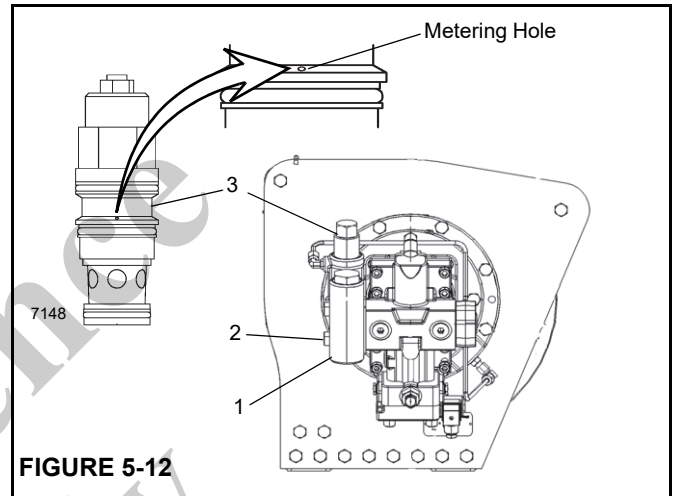

FIGURE 5-12
2. Remove the counterbalance block (3) from the motor assembly by removing 4 capscrews (31).
3. Remove the counterbalance valve (68) from the counterbalance block (3) and inspect the small metering hole located on the side of the cartridge valve to make sure it is not obstructed (Figure 5-12). Also inspect the O-rings to insure that they are not cut or flattened.